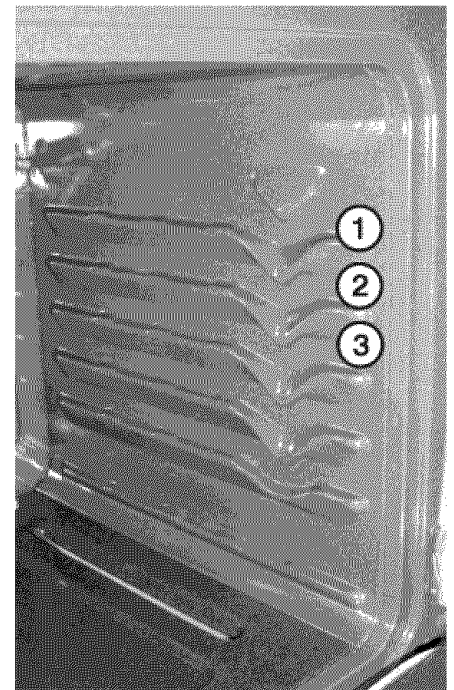

Fig. 2
Broil Rack Position Table (Refer to Fig. 2)
2. Pull the door hinge locks on both left and right door hinges down from the oven frame completely towards the oven door (See Fig. 2). A tool such as a small flat-blade screwdriver may be required.
4. Push the door hinge locks up towards and into the oven frame on both left and right oven door hinges (See Fig. 2) to the locked position.